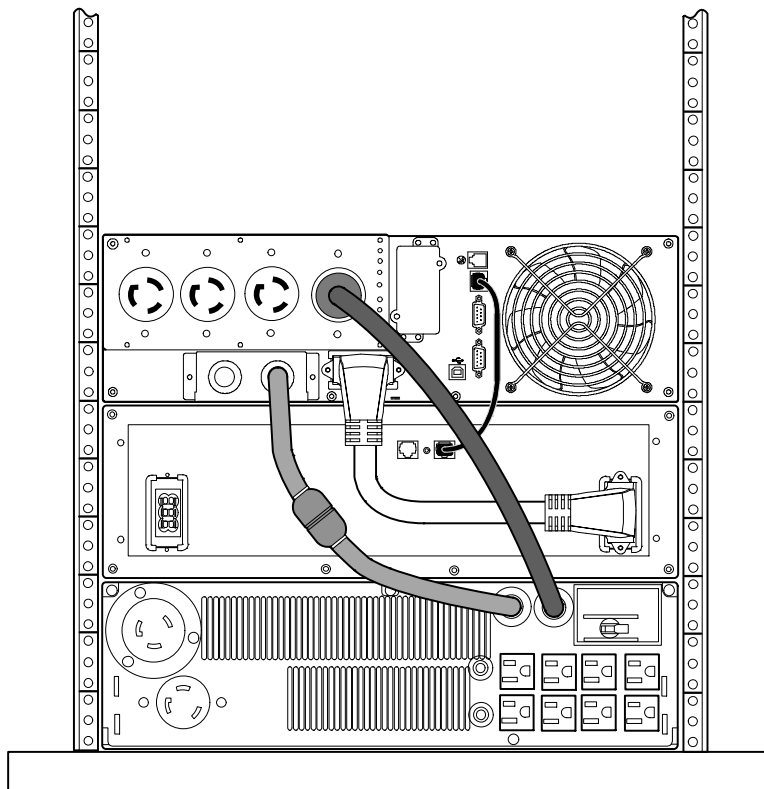

Figure 5. Typical 9135 UPS Installation with EBM and PPDM
7. **Rack configuration only.** Install the PPDM below the UPS and EBM as shown in Figure 5.